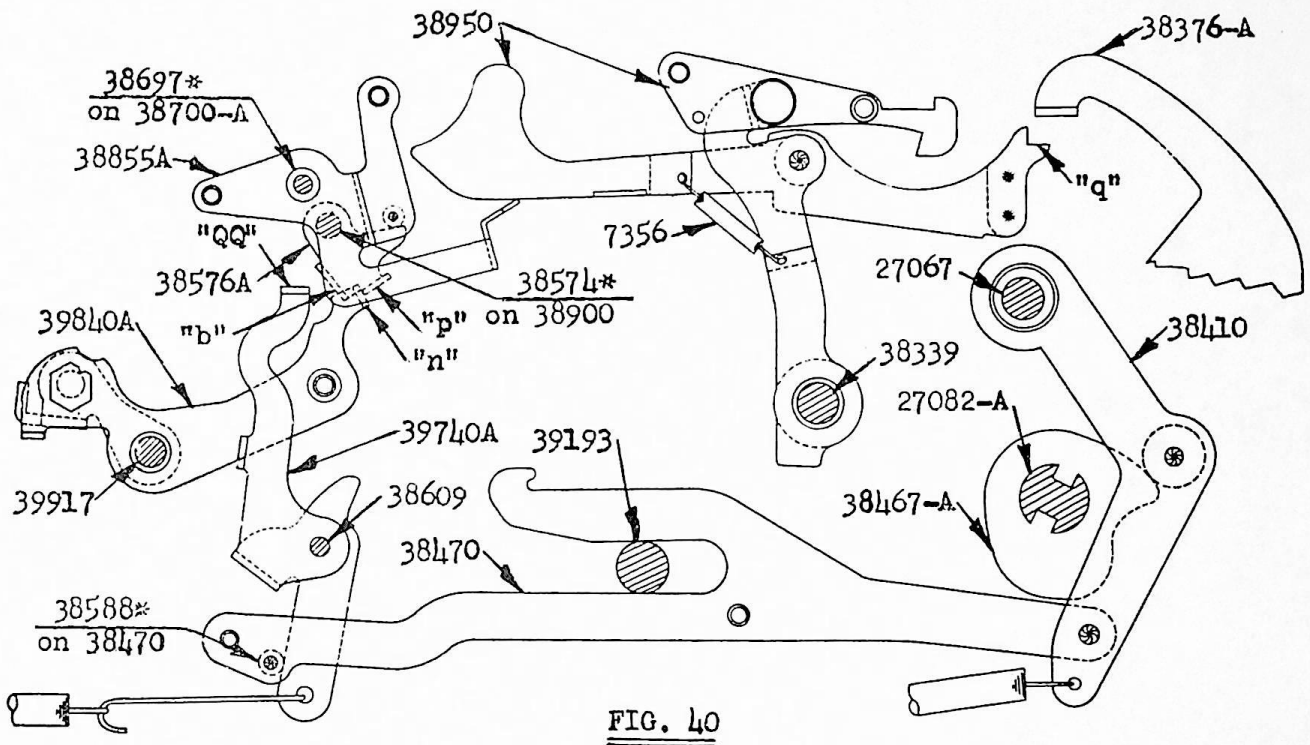

FIG. 40
4. (Fig. 40). In the case of Non-Shift (multipliers like 000003.0210) the ear "n" on 39840A will therefore rise only a small amount until it comes to a position directly in front of ear "p" on the Non-Shift Interponent-38576A, which has been positioned in "Non-Shift" by the ear "QQ" on 39740A. (See Para. C3 on Page 1262). When 39740A is restored during the Setting Cycle